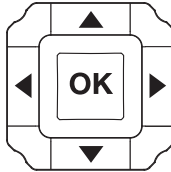

Fig. 4.2 Navigation Pad
There are five (5) buttons arranged in a square that make up the Navigation pad, as shown in Figure 4-2.